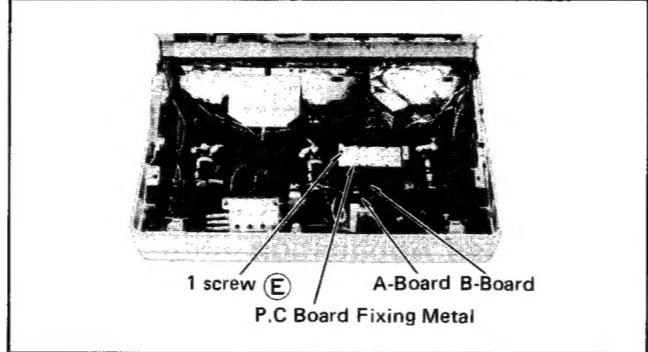

Fig. 6
- Remove a 1 screw **(E)** in fig. 6, and remove the P.C-Board fixing metal.